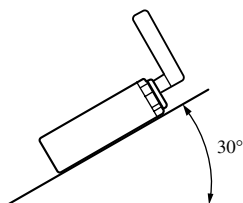

Fig. 9
- If installation angle exceeds 30° from horizontal, the unit might not give its optimum performance. (Fig. 9)